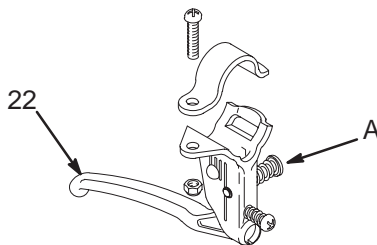

Fig. 17 _____ 0018
1. For a free moving caster: Squeeze and hold the caster lever (22).
2. To lock the caster in the free moving position, squeeze the trigger, push in and hold the the button (A) and release the trigger. See Fig. 17.